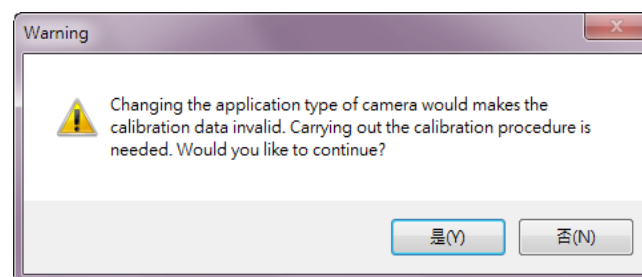

Figure 5-4 Recalibrate the prompt window
2. If you select a new application mode, the message window prompt to recalibrate will appear. As shown in Figure 5-4, press the "Yes" button to confirm to switch the mode. Press the "No" button to maintain the current mode.